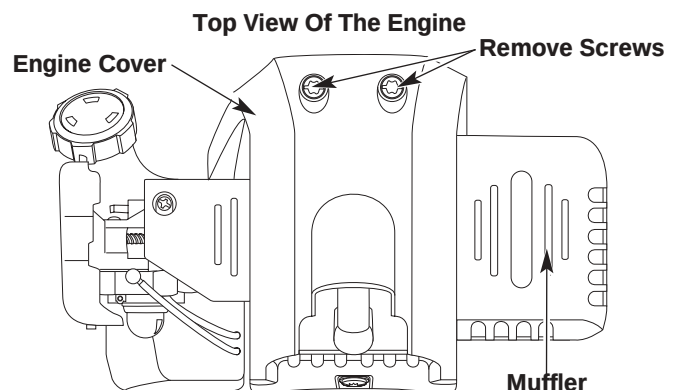

Fig. 51
2. Remove the two (2) screws on top of the engine cover with a Flat-head or T-25 Torx screwdriver (Fig. 51).
6. Remove the engine cover (Fig. 51).